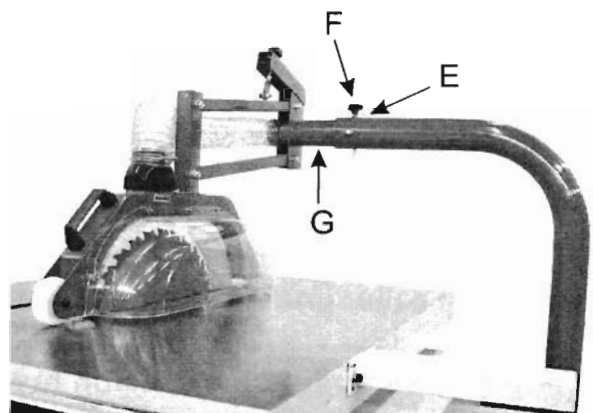

Figure. 13
To install or replace a blade (refer to Figure 13) :
The overhead guard alignment with the table saw blade is adjusted at the factory. Before of use or moving the saw to another location, the overhead guard may need disconnect the Saw from the Table, make sure lock pin E (Figure. 13) insert swing arm bracket G (Figure. 13), then tighten two lock knob F (Figure. 13).
1. Remove the blade guard (Figure 13).